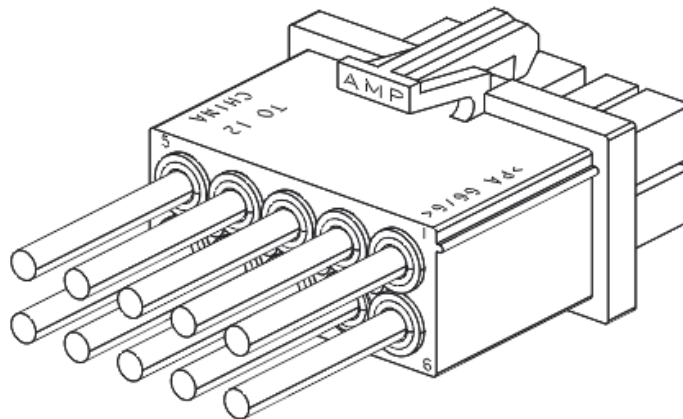

Figure 10
3. Grasp the wire directly behind the insulation barrel and push the contact straight into the housing cavity until at least two of the three flanges of the wire seal are fully inserted into the contact cavity. See Figure 10.